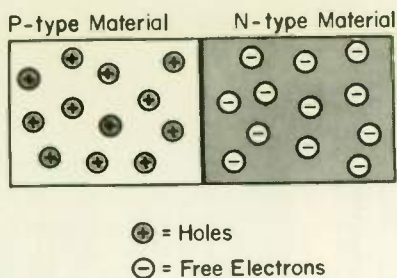

Fig. 12 The majority charge carriers in the P-material of a diode are holes, and in the N-material free electrons.
17 THE REGIONS OF A DIODE . . . Most semiconductor electronic devices, including diodes and transistors, require the use of both N-type and P-type materials. A semiconductor rectifier consists of a section of N-type and a section of P-type material joined together as in Fig. 12. They are not however two separate slabs clamped together. Instead they are fused or blended together so that the whole unit is a single crystalline structure. The unit is a single crystal with donor type impurities in one half and acceptor type impurities in the other. The division line (called the junction) in Fig. 12 does not break the crystalline structure, but is merely used to separate the crystal area with P-material from the area with N-material. Because the crystalline structure is not broken, holes and free electrons wandering in the material can move across the junction as readily as they can move anywhere else in the material.
As Fig. 12 shows, there are holes on one side and free electrons on the other side of the crystal. However, these opposite charges are not attracted to each other because each region of the crystal is neutrally charged. Remember that when an electron breaks away from its atom to become a free electron it leaves an atom behind that is short one electron and hence is a (110) _____ charged ion. The free electrons in the N-type material are balanced by an equal number of positive ions. The positive ions (111) *(are) (are not)* free to move about. Similarly, the holes in the P-type material are balanced by an equal number of (112) _____ ions.
1. If the free electrons in the N-material of Fig. 12 were to move over and fill in the holes in the P-material, then the N-material would be (a) _____ charged and the P-material (b) _____ charged.